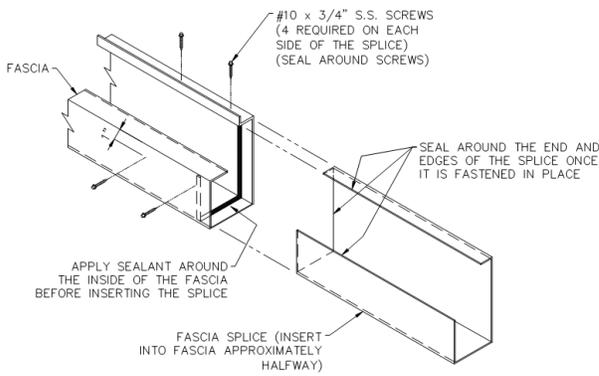

FIGURE 5
- B. If the canopy length requires the fascia to have a splice, attach the splice to one of the pieces of fascia (Figure 5). If the length of the canopy is not too long, attach the other piece of fascia to the splice (Figure 6) before attaching the fascia to the columns or the wall. Seal all around the splice and the screws in the gutter portion of the fascia (Figure 6).
- C. If the canopy length requires more than one splice, attach a splice (Figure 5) to the same end of each piece of fascia except the last piece which finishes out the canopy length.